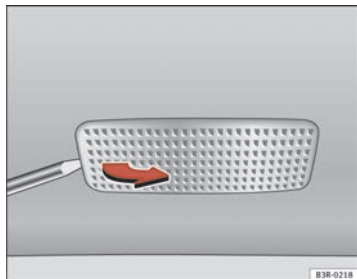

Fig. 228 Removing sunvisor light
- Remove the bulb carefully, using the screwdriver on its flat side ⇒ fig. 228.